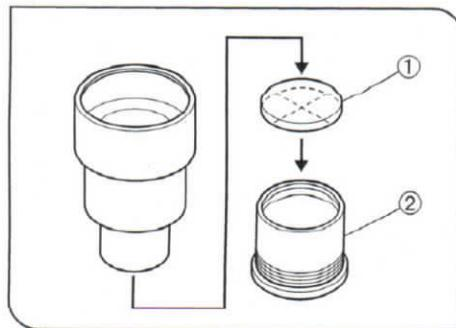

Fig. 21
(Fig. 21)
- Remove the micrometer sleeve ② and fit the micrometer ① into the eyepiece with the indication side facing down as shown in Fig. 21. Replace the micrometer sleeve to use the micrometer.